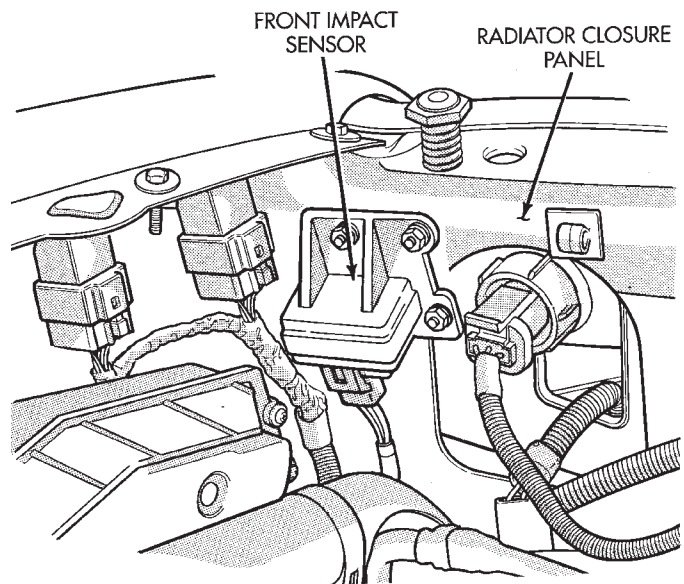

Fig. 6 Left Impact Sensor
- (1) Disconnect battery negative cable and isolate.
- (2) Remove three nuts holding sensor to upper crossmember of radiator closure panel and remove sensor (Fig. 6).
- (1) Connect sensor wiring lead from harness to connector on body of sensor.
- (2) Install left sensor with arrow pointing forward (Fig. 6) and tighten nuts to 4.5 to 7 N•m (40 to 60 in. lbs.) torque using nuts provided with the new sensor.
- (2) Install right sensor with arrow pointing forward (Fig. 6) and tighten nuts to 4.5 to 7 N•m (40 to 60 in. lbs.) torque using nuts provided with the new sensor.
- (3) Do not connect battery negative cable. Refer to Air Bag Systems Check for proper procedure.